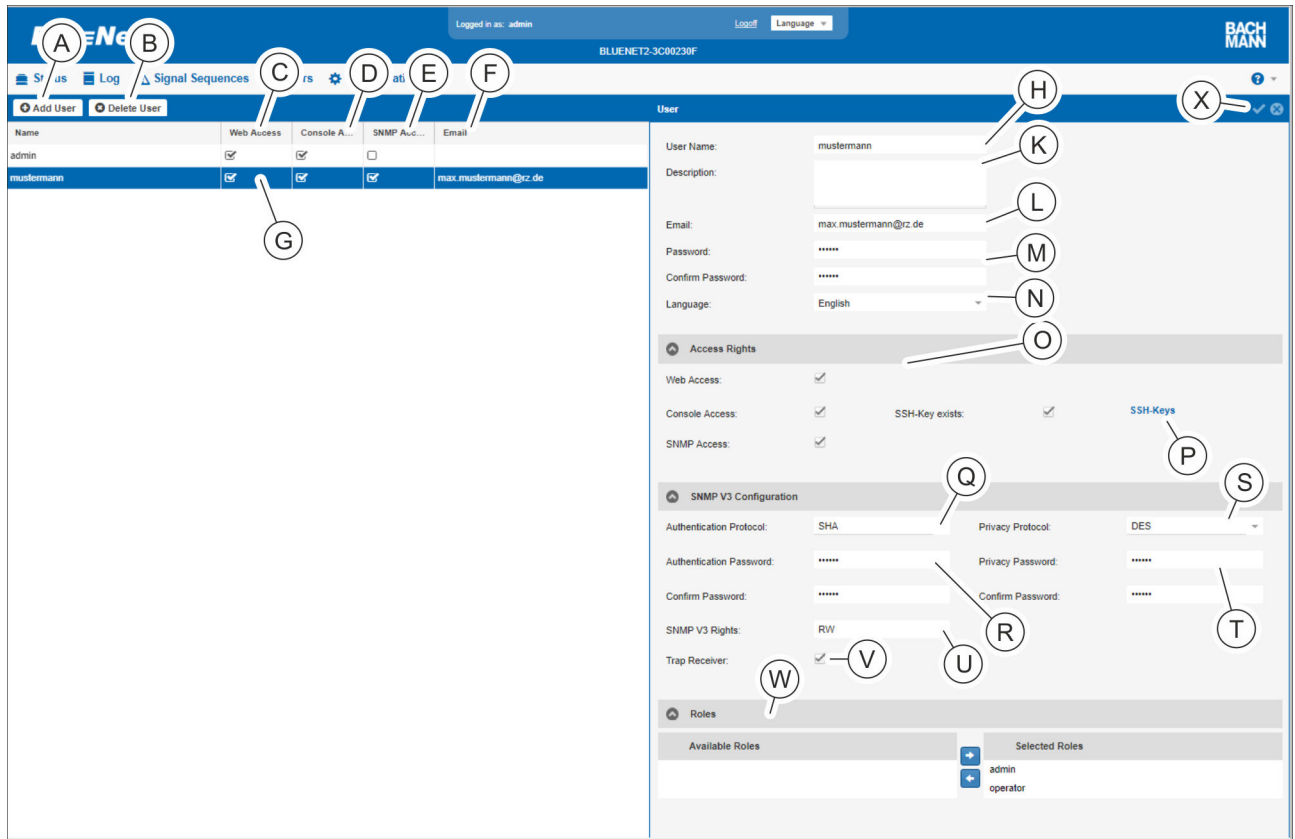
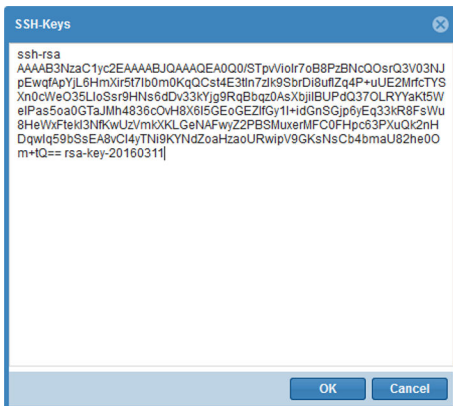

Fig. 133: "Users" menu
Fig. 134: Inserting an SSH key
2. ➤ Create a new user by clicking the "Add User" button (Fig. 133/Ⓐ).
To modify an existing user, select the user in question from the list (Fig. 133/Ⓒ).
3. ➤ Enter a user name (Fig. 133/Ⓑ).
4. ➤ If necessary, enter a description for the user (Fig. 133/Ⓒ).
5. ➤ Enter an email address (Fig. 133/©).
6. ➤ Enter and confirm a password for accessing the PDU (Fig. 133/©).
7. ➤ Select the language (Fig. 133/©).
8. ➤ Use the checkboxes to assign access rights for "Web Access", "Console Access" and/or "SNMP Access" (Fig. 133/©).
9. ▶ The "SSH-Keys" button can be used to store SSH keys for key-based SSH login operations (Fig. 133/Ⓞ). Copy one or more SSH keys to the "SSH-Keys" window (Fig. 134) and press the "OK" button for confirmation.
10. ▶ In the "SNMP V3 Configuration" area, select an authentication protocol, if necessary (Fig. 133/Ⓞ).
11. ▶ Enter and confirm authentication password (Fig. 133/Ⓞ).
12. ▶ If necessary, select a privacy protocol (Fig. 133/Ⓞ).
13. ▶ Enter and confirm a privacy password (Fig. 133/Ⓞ).
14. ▶ Assign SNMP-V3 rights (Fig. 133/Ⓞ).
15. ▶ Select the "Trap Receiver" checkbox if the user is to be available as a trap receiver (Fig. 133/Ⓞ).
- 16.** Select a user role in the "Available Roles" field and use the "→" button to move it into the "Selected Roles" field (Fig. 133/©).
- 17.** Accept the settings using the "Save" (Fig. 133/©) button.
To delete an existing user, select the desired user (Fig. 133/©) and click the "Delete User" button (Fig. 133/©). A security prompt appears and has to be confirmed.